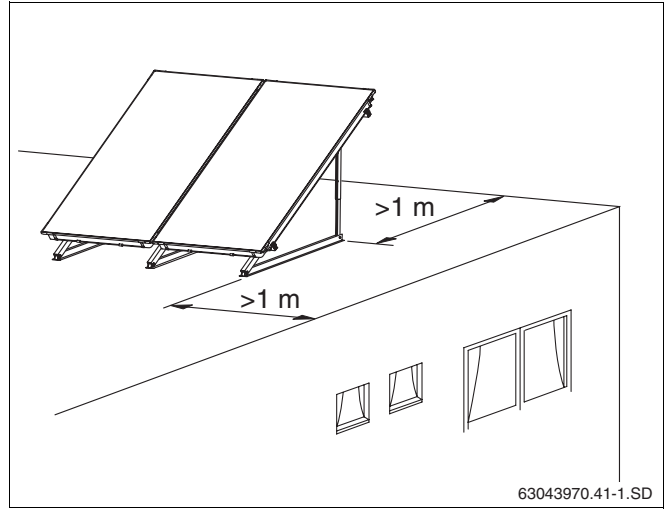

Fig. 15 Distance from the edge of the roof
- ▶ Before commencing the installation, ensure that at least one metre is allowed between the flat roof supports and the edge of the roof (Fig. 15).